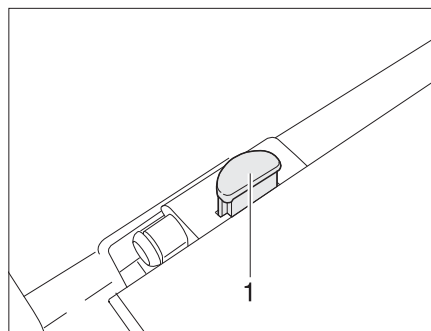

Fig. 37 Table top locking mechanism
- Press the release knob (Fig. 37,1) at the locking mechanism of the table-top.